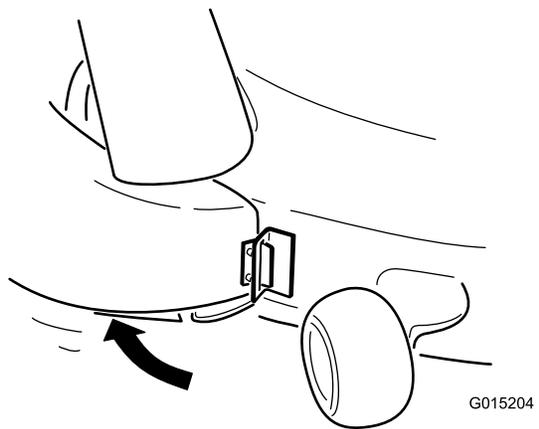

Figure 22
2. Pivot the chute back and toward the deck so that the chute is flush with the mower deck (Figure 22).